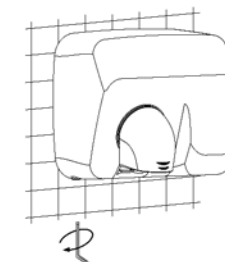

Fig. 10
- Unscrew the screws in a **counter-clockwise** (CCW) direction using the supplied special tool (see figure 10).